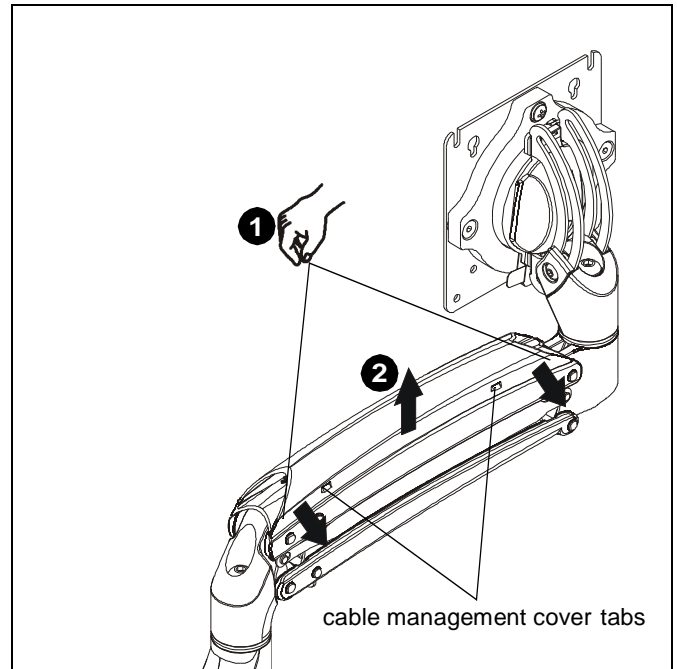
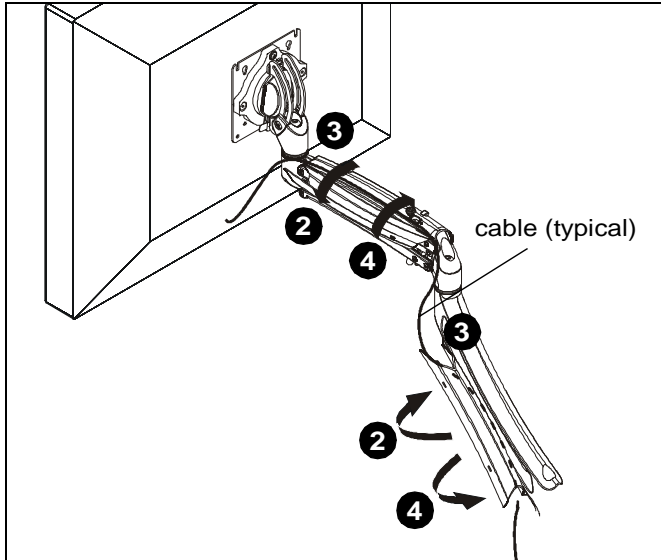

Figure 25
Figure 26
1. Press insides of cable management covers at both ends to unhinge tabs on either end of cable management cover on upper arm. (See Figure 25)
2. Lift cable management cover up until tabs are unhinged and cover is in the "open" position. (See Figure 25) and (See Figure 26)
3. Route cables through cable management channels. (See Figure 26)
4. Close cable management covers on monitor arm. (See Figure 26)